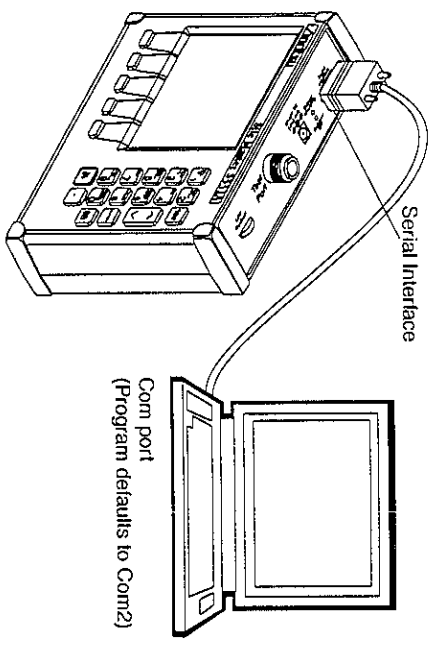

Figure 3-3. Equipment Setup for Site Master Tools Operation
- Step 1. Connect the supplied cable as shown in Figure 3-3.